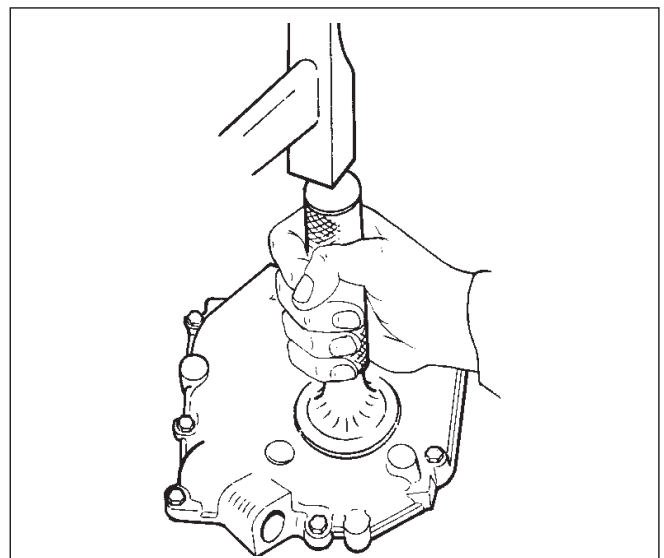

Fig. 41
l) OIL SEAL REPLACEMENT (Fig 41)